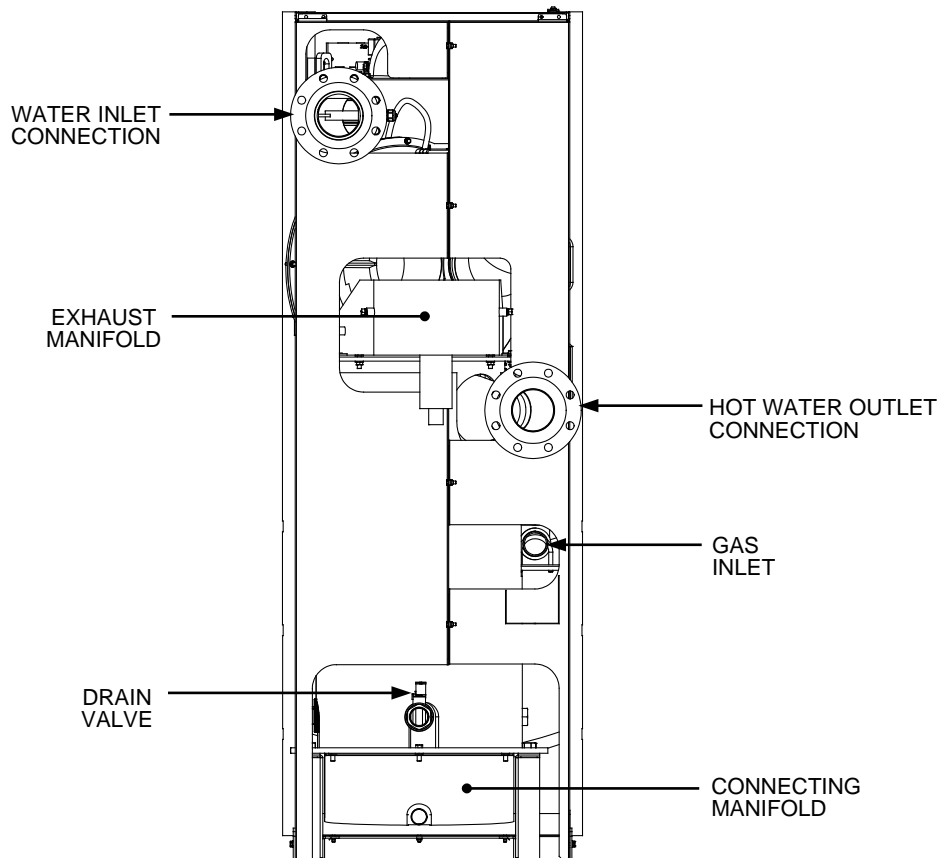

Figure 3: Benchmark 3.0LN - (Rear View)
3. At the rear of the unit (Figure 3), slowly open the drain valve and drain the boiler water from the heat exchanger.